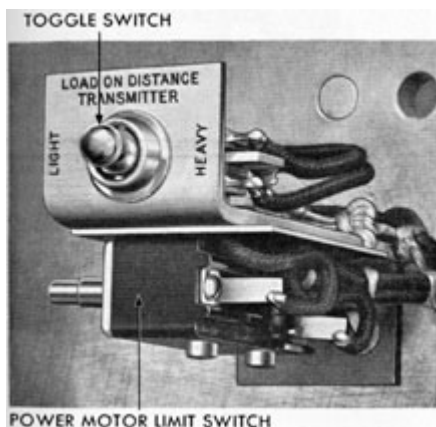

Figure 11-1. Distance transmitter load switch.
**11A1. Position distance transmitter load switch.** The distance transmitter load switch (Figure 11-1) is mounted in the upper right corner of the master transmitter indicator. This switch is set in the heavy load position when there are more than two repeaters operating, or when the dead reckoning tracer (DRT) and dead reckoning analyzer (DRA) are in operation. Otherwise, it is in the light load position at all times. This switch is used for making a rough adjustment to vary the